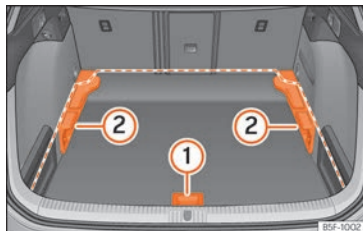

Fig. 193 Variable boot floor: position.
- Lift the floor using handle »» Fig. 193 ① and pull it back until the front of the floor has fully passed the supports ②.
- Move the floor forward over the supports as far as the rear seat backrest and then lower the floor with the handle ①.
- Now match the front part with the lower grooves of the supports and slide the floor forwards as far as the rear seat backrest and lower the floor at the same time with the handle ①.
»» Fig. 193 ① and pull it back until the front of the floor has fully passed the tilted grooves